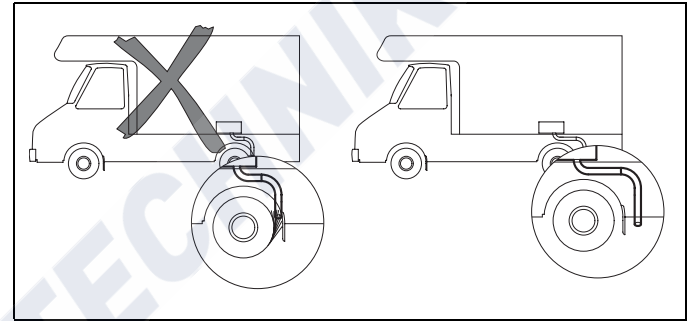

Fig. 41: Avoid the line becoming clogged with dirt
- The line must be located so that it cannot become clogged with dirt or snow. See Fig. 41.